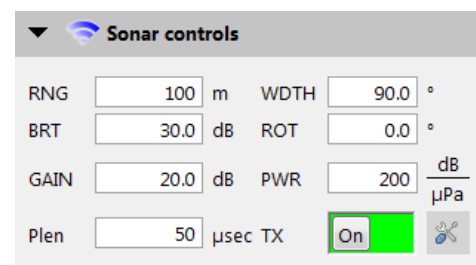

Figure 59. R2Sonic Sonar Controls
The R2Sonic sonar controls include range (RNG), sector width (WIDTH), brightness (BRT), sector rotation (ROT), gain (GAIN), power (PWR), pulse length (Plen), and transmit on/off (TX) (Figure 59). Projector type (PROJ), frequency (FREQ), and time synch method (SYNC) can be accessed by clicking the advanced setting button. These controls work the same way as the corresponding controls in the R2Sonic native software.